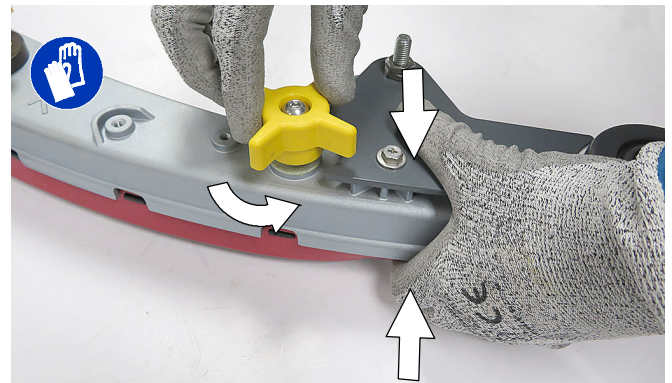

FIG. 145
2. Fully loosen all four star knobs on squeegee assembly. This will separate the spring loaded blade retainer from squeegee frame (Figure 145). To loosen the knobs quickly, squeeze the blade retainer and squeegee frame together.